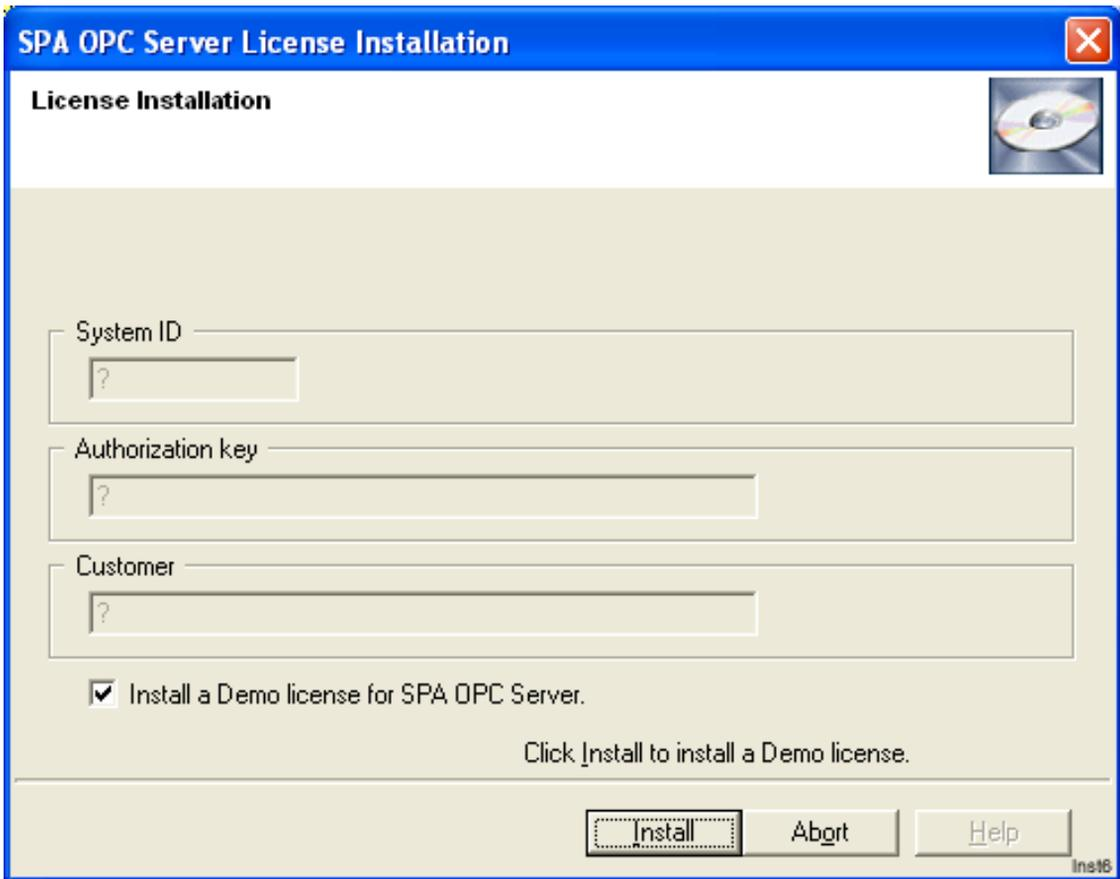

Figure 2-6: License Installation dialog box
- The License Installation dialog box is now displayed. The “Install a Demo license for SPA OPC Server” check box is selected automatically. Click **Install** to install a Demo license, see Figure 2-6.